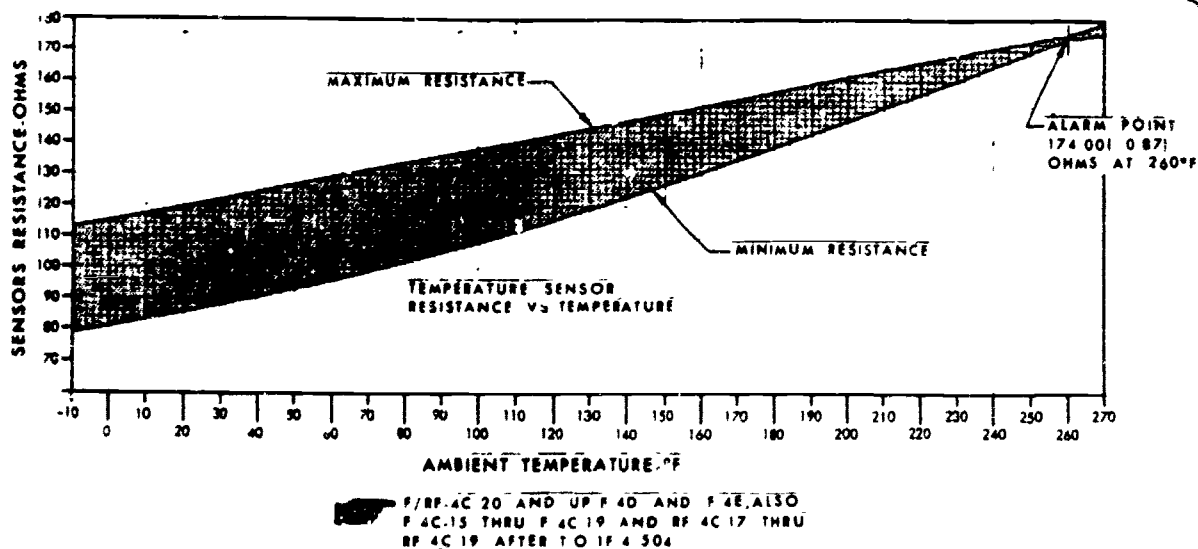

Figure 1. Windshield Temperature Sensor Resistance Graph.
d. The graph, illustrated in figure 1 below, shows the normal sensor resistance. Using the graph, determine the resistance range for the sensor at the present ambient temperature in the lab. Is the measured resistance of the sensor within the range given on the graph? (yes/no).